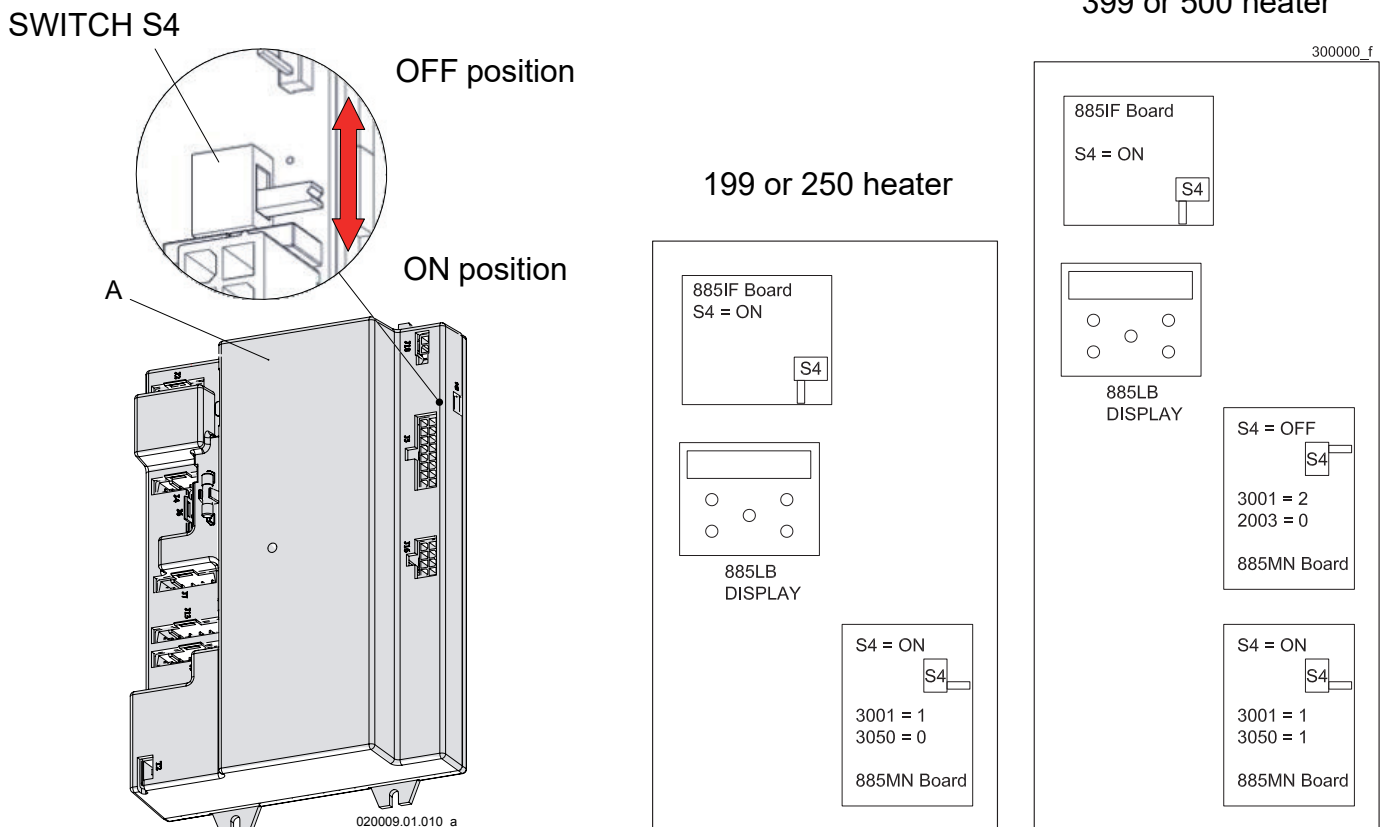

Figure 17-16 Control board "A" and complete situation of addresses and switches S4
9. move "Switch S4" as per Figure 17-16, from OFF position to ON position;